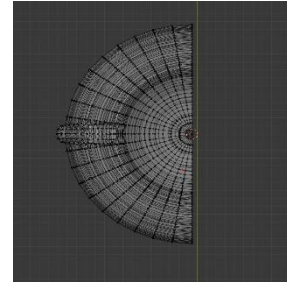

Figure 29
- 14) Switch to Top orthographic and to **Wireframe** mode and delete the right half of the object in edit mode. We do not need it. We will mirror the left part with the handle (**Fig. 29**).